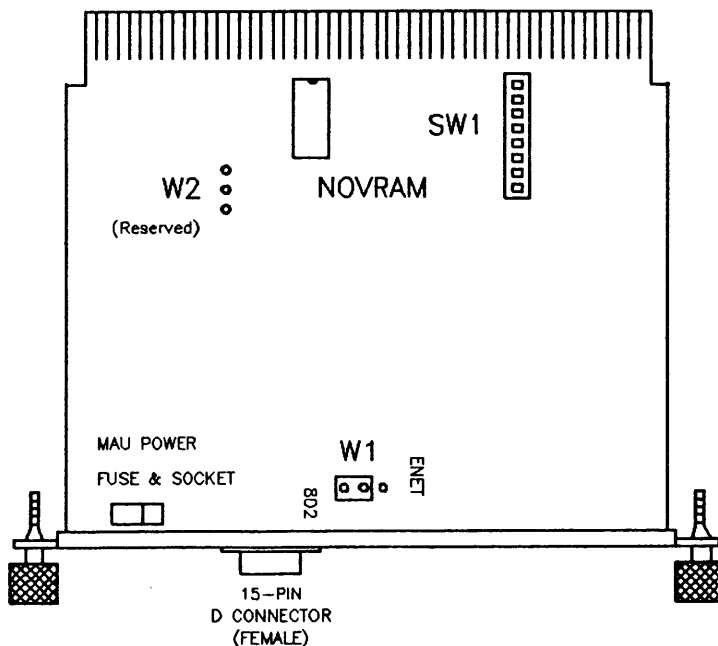

Figure 2-1: LANIC Card Illustration
- Note the card's unique link-level (node) address marked on the card's NOVRAM (see Figure 2-1). This address should be entered into a network manager's logbook.
The NOVRAM is an IC mounted in a dual-in-line package (DIP) at U56. Refer to Figure 2-1 for approximate location.
Figure 2-1 shows the location of card switches and jumpers.
With the component side of the LANIC card up, locate the fuse. Refer to Figure 2-1 in Section 2 of the manual for fuse location. It is near the front plane D connector.